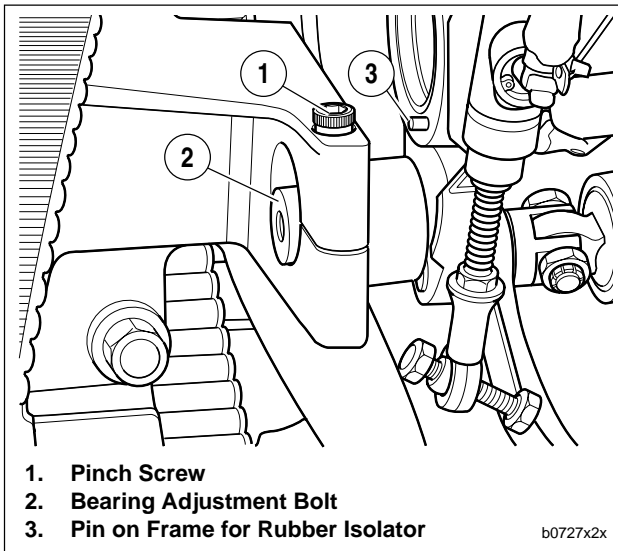

Figure 2-74. Swingarm Mount Block, Right Side
20. See Figure 2-74. Using floor hoist, raise frame while pushing down on swingarm. Frame must be raised until bearing adjustment bolts (2) clear pin on frame and can be removed.
6. See Figure 2-74. Secure swingarm in place.
- a. Remove both pinch screws (1).